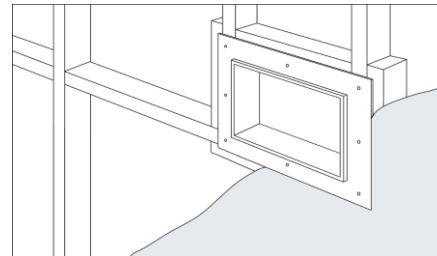

Fig. 2.
**STEP 2:** Install wallboard to finish flush with outside edge of the EasyNiche. (Fig 2.)